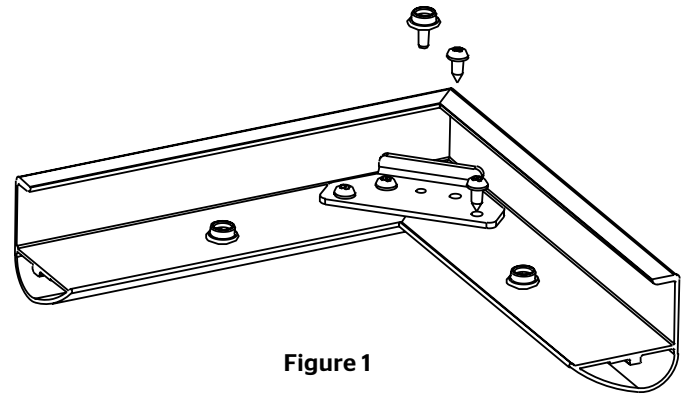

Figure 1
2. Slide the frame pieces together at corners. (Note: Frame assembly holes may not appear to fit properly at the corners until all fasteners have been attached. Once fasteners are attached, the frame corners will be drawn in for a proper fit.) Secure frame pieces with #10 screws provided. Do not tighten screws until all are started, then tighten. See Figure 1.
4. Insert and tighten the snap stud in the center of the corner bracket (Figure 1).